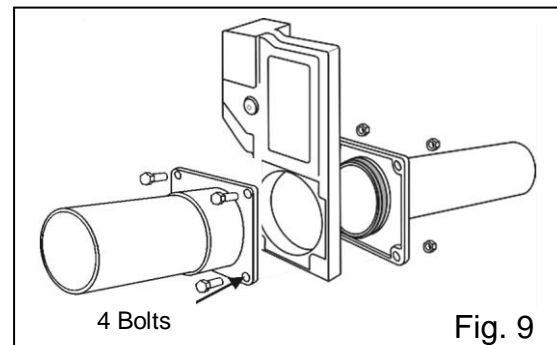

Fig. 9
**Step 10:** Ref **Fig. 9:** Install four bolts and nuts and **hand tighten till the valve is seated snug with no gap between the body and the flanges.** Use 7/16" Sockets/ spanners - **a Torque wrench is highly recommended.** Torque from **nuts side only**, ¼ turn at a time, in a crisscross pattern. Progressively increase Torque to **10 Inch Lbs.**